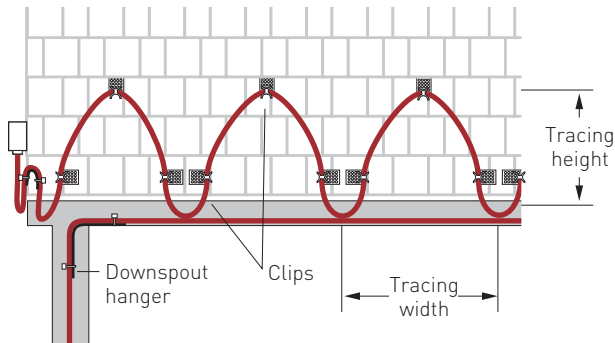
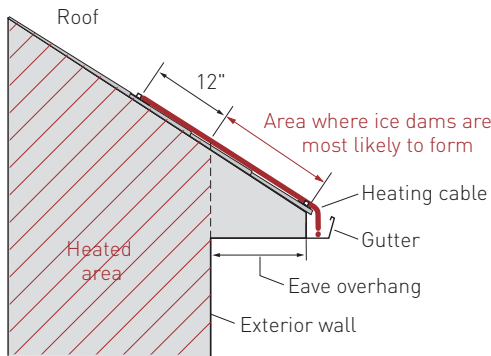

Figure 1 Front view of roof with WinterGard Wet system
Figure 2 Side view of WinterGard Wet system
Figure 1 and Figure 2 below illustrate several important terms:
- Run heating cable up the roof until it is approximately 12 inches past the exterior wall into the heated area (see Figure 2 on page 3).
- For gutter deeper than four inches, additional cable will be needed, contact Pen-tair’s Thermal Building Solutions at (800) 545-6258.
¹. See Figure 2
². See Figure 1
- Run the heating cable up the seam until it is approximately 12 inches past the exterior wall and over a heated area (see Figure 2 on page 3).